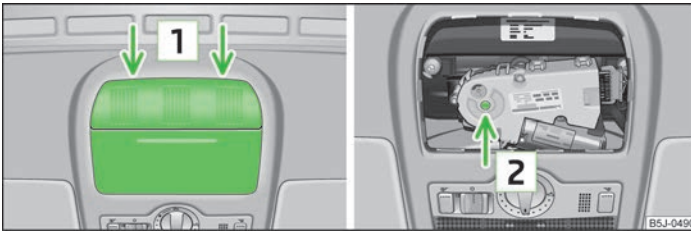

Fig. 21 Point for positioning screwdriver/opening for positioning the key
- Carefully insert an approximately 5 mm wide screwdriver into the slot in the positions shown by the arrows [1] » Fig. 21.